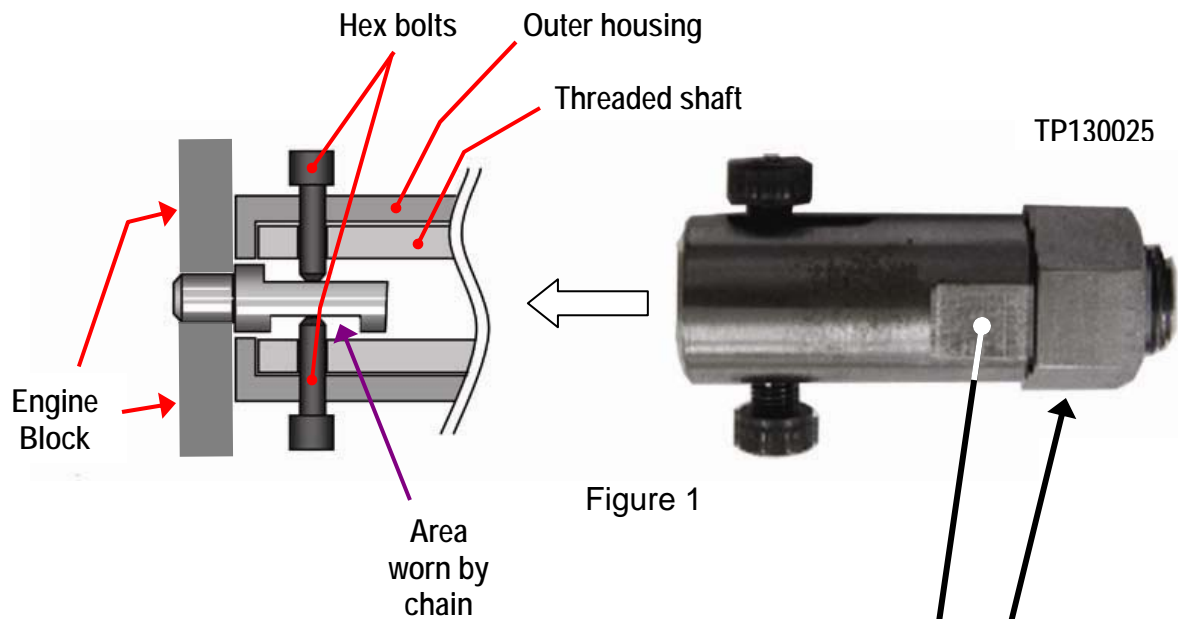

Figure 1
4. Remove the B2 oil jet using Remover Tool J-51269-1 (see Figure 1).
- a. Install the remover tool onto the oil jet and flush against the engine block (see cutaway, Figure 1).